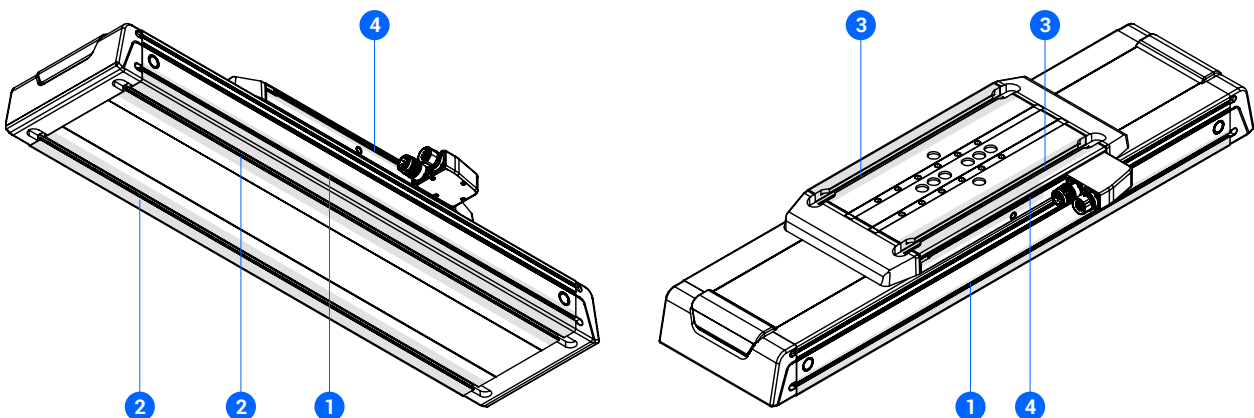

Figure 4: Mounting the CTL linear unit.
The product can be mounted only by the presented points (see Figure 4), otherwise the product may get damaged.
- The product can be mounted as follows (see Figure 4):
The attachments must only be mounted on the presented points (see Figure 4), otherwise the product may get damaged.